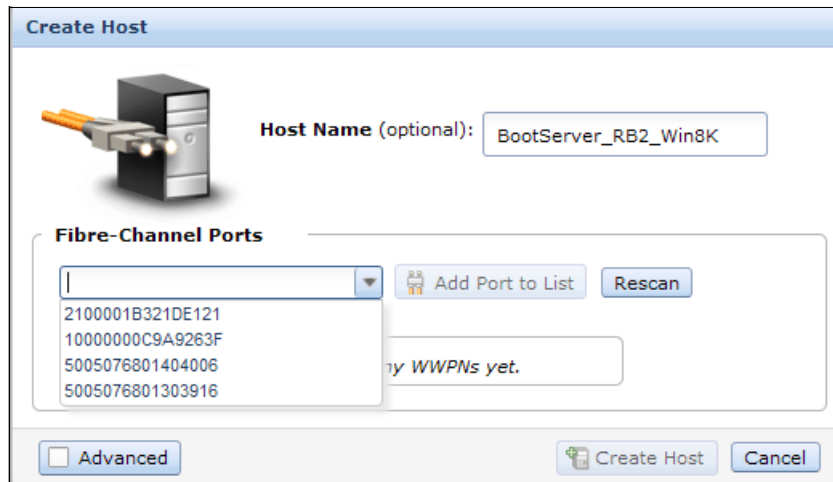

Figure 5-27 Select host-port
2. Enter a Host Name and click the Fibre Channel Ports box to get a list of all known worldwide port names (WWPNs) as shown in Figure 5-27.